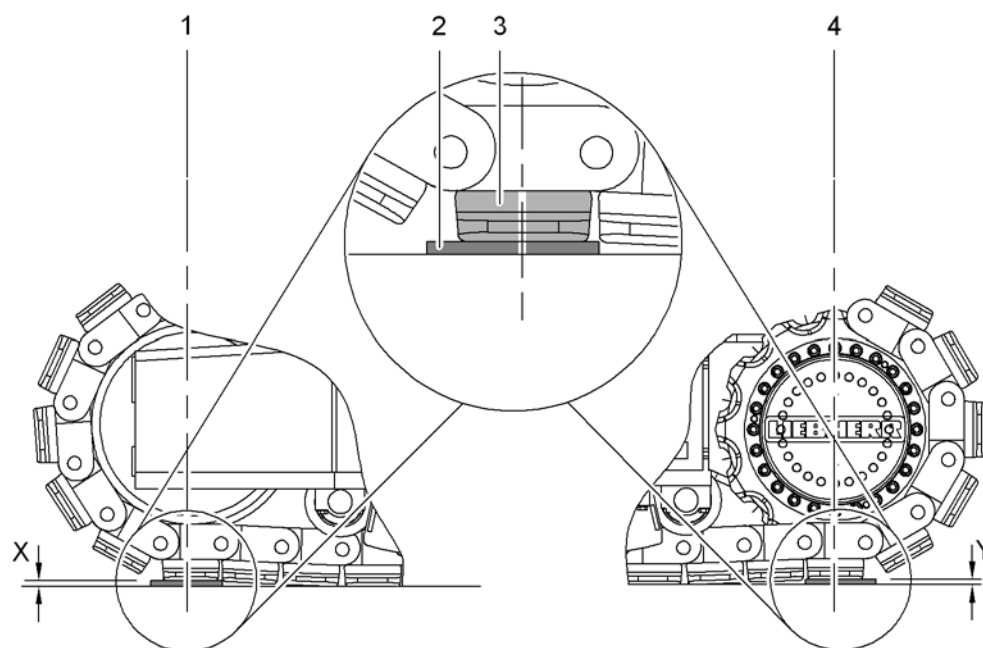

Fig. 991 Positioning of the support plates
- ▶ Move precisely onto the support plates (see: fig. 991, page 501) .